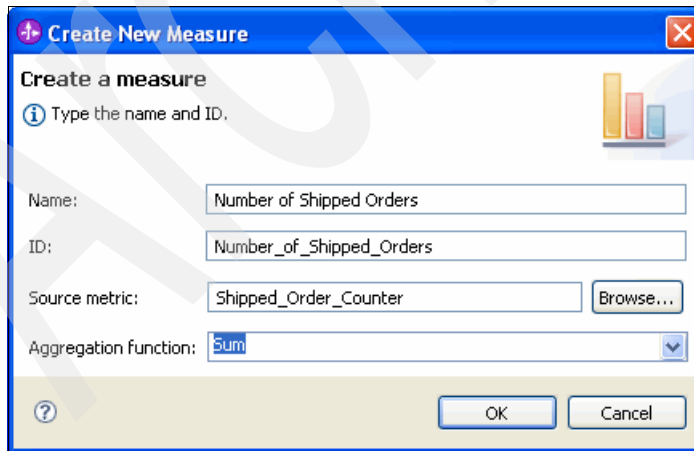

Figure 8-120 Setting the measure name, metric, and aggregation function
7. In the Create New Measure window (Figure 8-120):